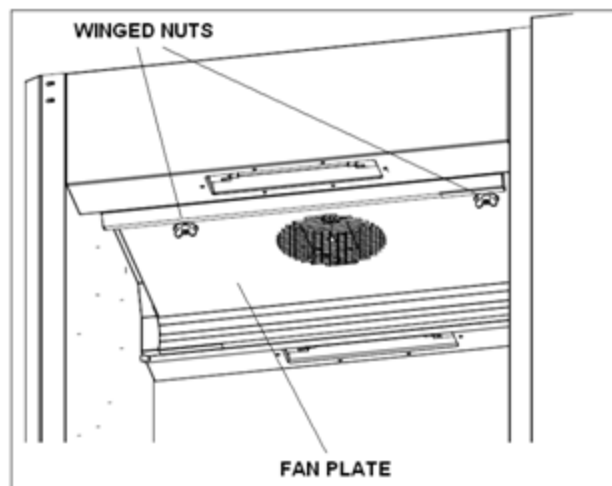

Figure 18
- Remove the fan plate by loosening two winged nuts (see Figure 18). This plate hinges at two points at the sides. After pivoting, the plate can be removed from the unit.